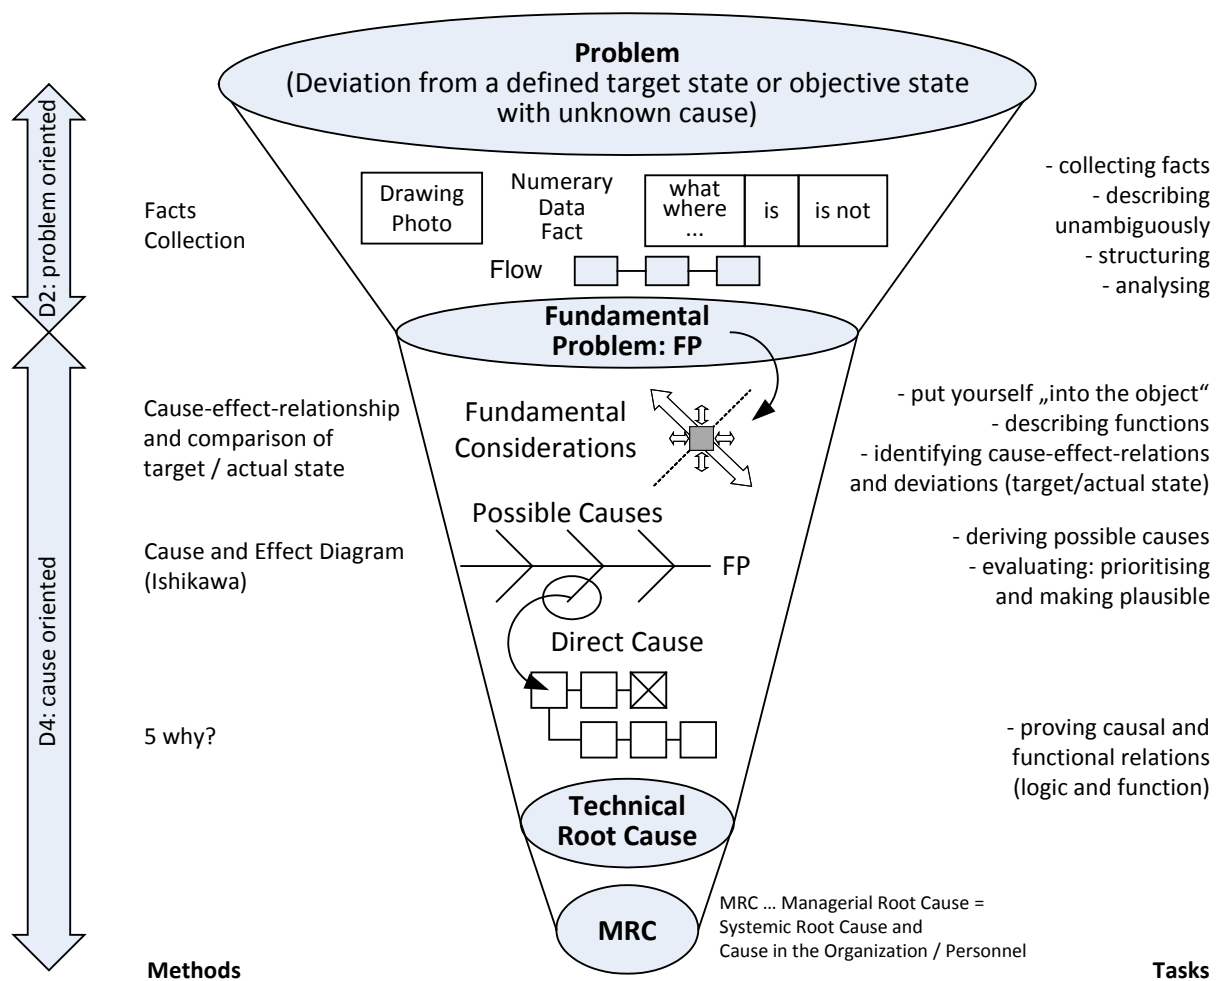

Figure 3.2: Bosch problem solving funnel
- The **procedure for problem solving** forms the core of the methodology. The steps correspond to the procedure used in the 8D method (see Appendix 1). They are adapted to the different problem areas (product problems, process problems, problems in the indirect area) and the contents detailed with regard to some subtasks. The basic procedure (see figure 3.2 problem solving funnel) can be applied, however, regardless of complexity and the problem area.
As explained in section 2 "principles for problem solving", the problem description (D2) and the cause-effect analysis (D4) comprise the decisive steps in the procedure. These are summarized and represented in the **Bosch problem solving funnel** (figure 3.2). The main **tasks** are explained below. The associated basic **methods** are described in section 4. Section 5 describes in detail the specifications of the procedure in different **problem areas**. The focus is on the description of the procedure for **product problems** – presented in the form of guidelines (section 5.3).
The fundamental problem solving methods are listed in the problem solving funnel (figure 3.2) allocated to the corresponding tasks. These methods help in the systematic procedure and structure the basic issues and results.
are documented in tabular form under the so called "Is"-column. The problem is thus **described clearly and in a structured manner** based on **facts** (no suspicions or opinions) (see tasks in the problem solving funnel, figure 3.2).